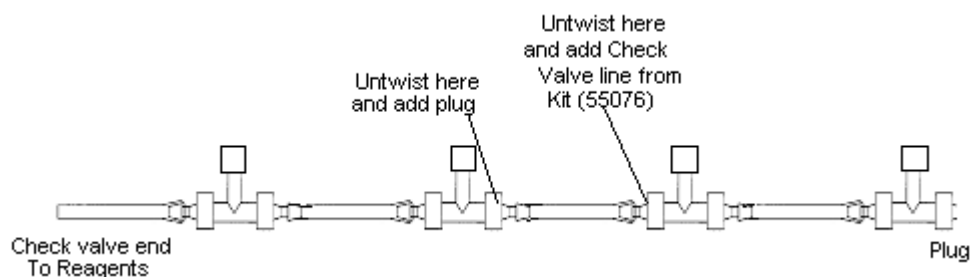

Figure 55. Disconnecting Manifold String
- 1 Modify the manifold string for two separate workstations by disconnecting the string at the length appropriate for the new workstation; see Figure 55.